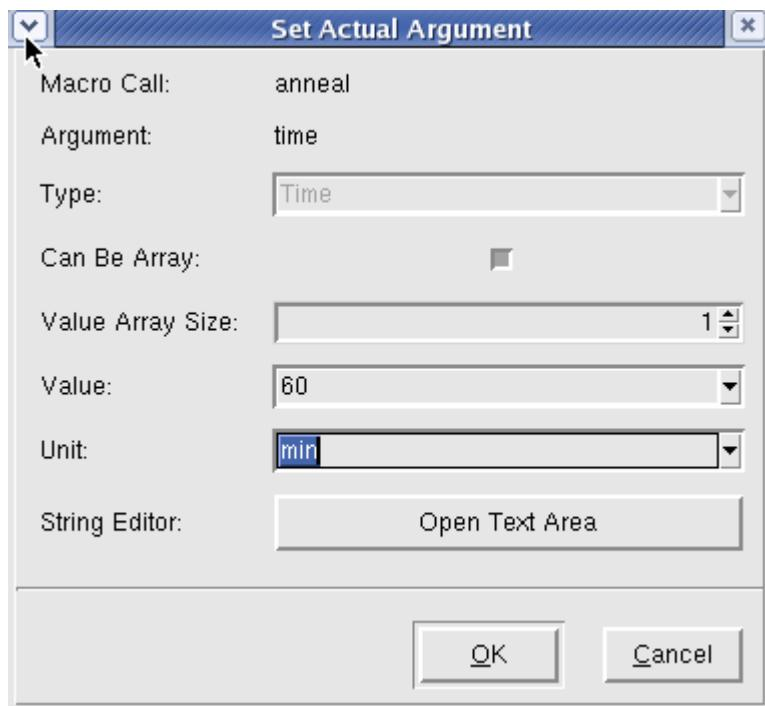
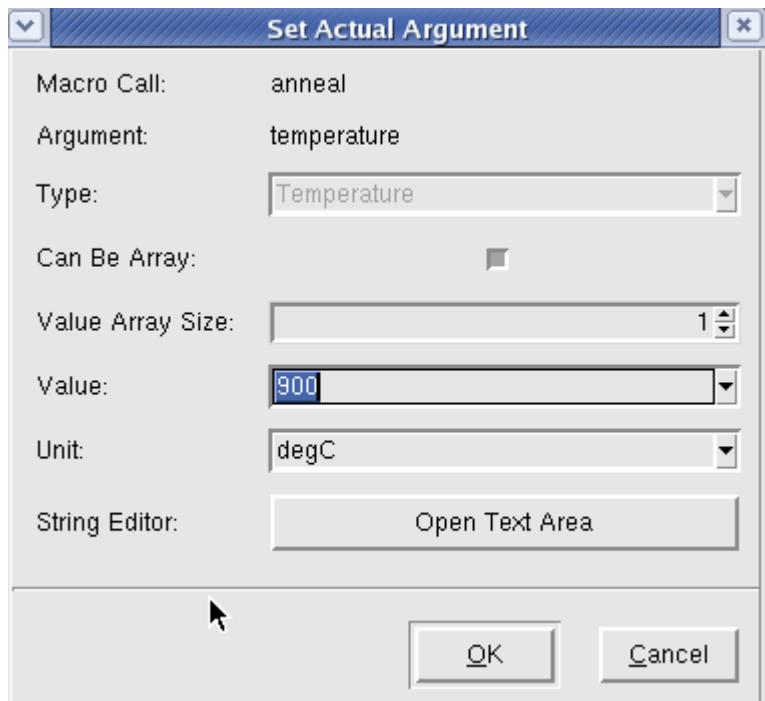

Figure 65: Add and anneal step (time =60 min.).
Figure 66: Setting the temperature.
11. To diffuse the Phosphorous into the p-type Si add an anneal step, by copying it from the process area to the Flow area. Change the time to 60 min (Figure 65). And the temperature to 900 degC (Figure 66).